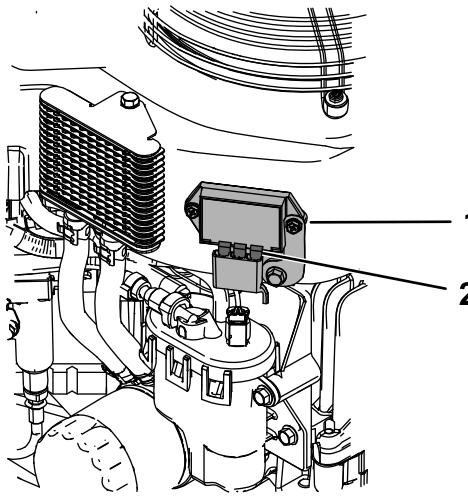

Figure 37
4. Lightly apply grease to the voltage regulator blades (Figure 37).